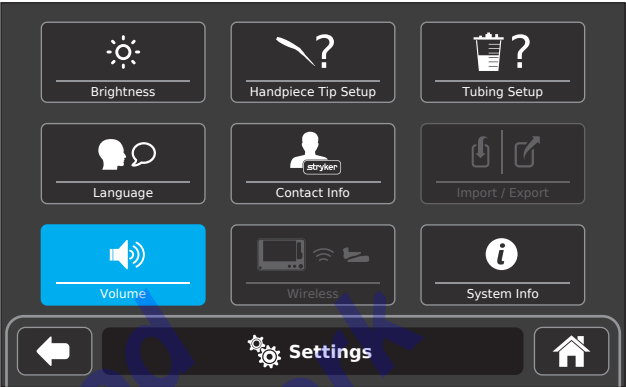

Figure 27 – Volume Selection
2. From the system SETTINGS screen, touch the VOLUME button (Figure 27).